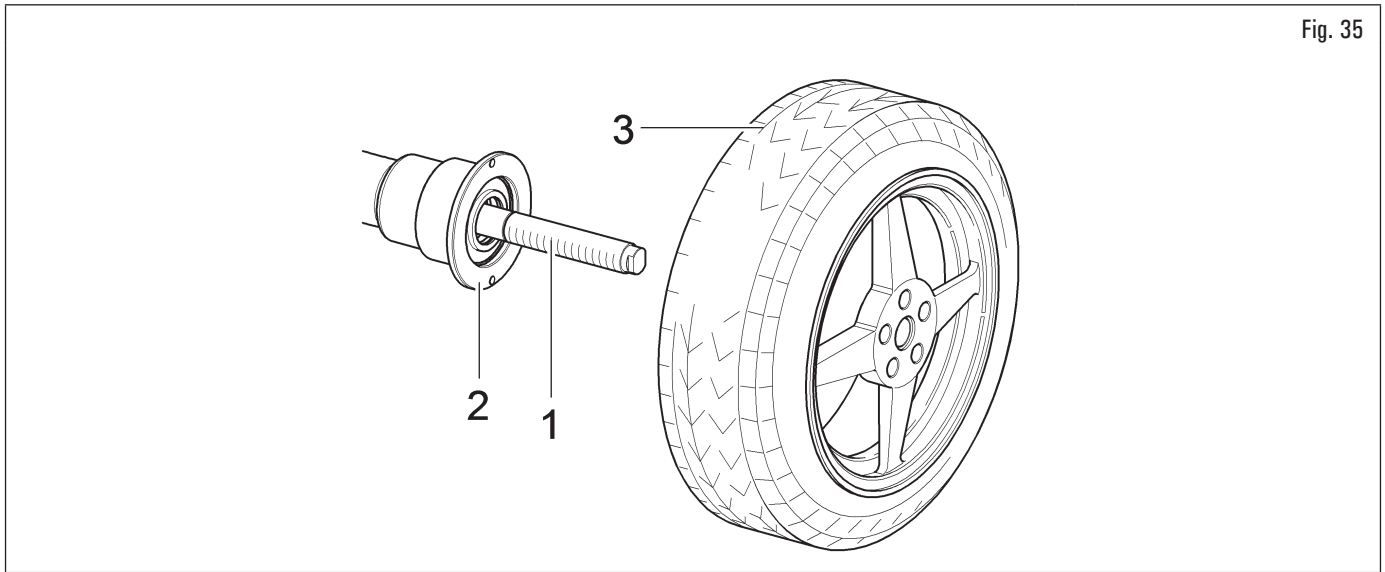

Fig. 35
1. Clean the spindle (Fig. 35 ref. 1) before fitting the wheel;
2. fit the wheel (Fig. 35 ref. 3) with the inside of the rim towards the wheel balancer, until the wheel is up against the support flange (Fig. 35 ref. 2);